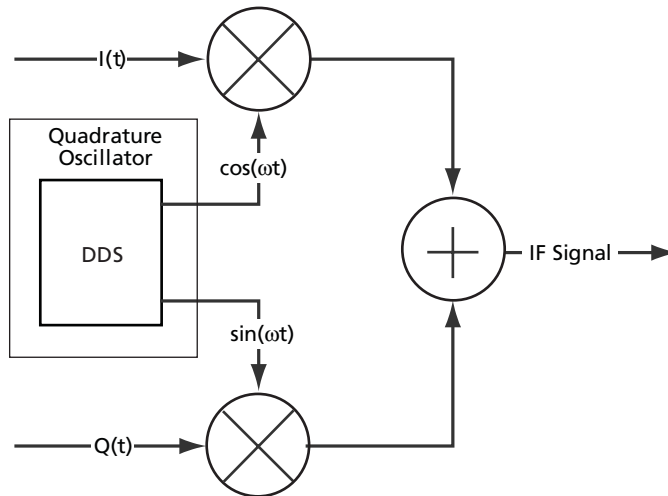

Figure 2. DDS Typical Application
A typical application using the DDS is shown in Figure 2 on page 6. The DDS is used in a communication system as a quadrature intermediate frequency (IF) carrier oscillator to implement a simple IF modulator. Two mixers modulate baseband quadrature data, $I(t) - Q(t)$, to create a composite output IF signal. Similarly, the DDS can be used to demodulate an I-Q composite signal.